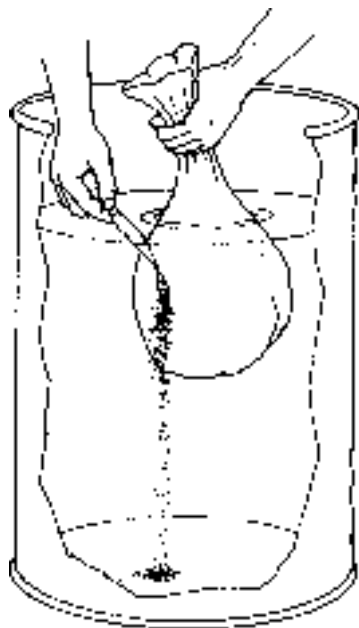

FIGURE 8.6 Preparing crystals in a drum or tank. (*Virginia Chemicals*)
5. Figure 8.6 shows how to prepare the crystals in the drum. Use a 55-gallon drum. Install a drain or spigot about 6 to 8 inches from the bottom. Set the drum in an upright position. Fill the drum with fresh water within 6 inches from the top, preferably warm water at about 80 degrees F (27 degrees C). Since the fine particles of the water-treatment crystals are quite irritating to the nose and eyes, immerse each plastic bag in the water. Cut the bag below the surface of the water. (See Figure 8.6.) Stir the crystals until dissolved. About 6 to 8 pounds of crystals will dissolve in each gallon of water.